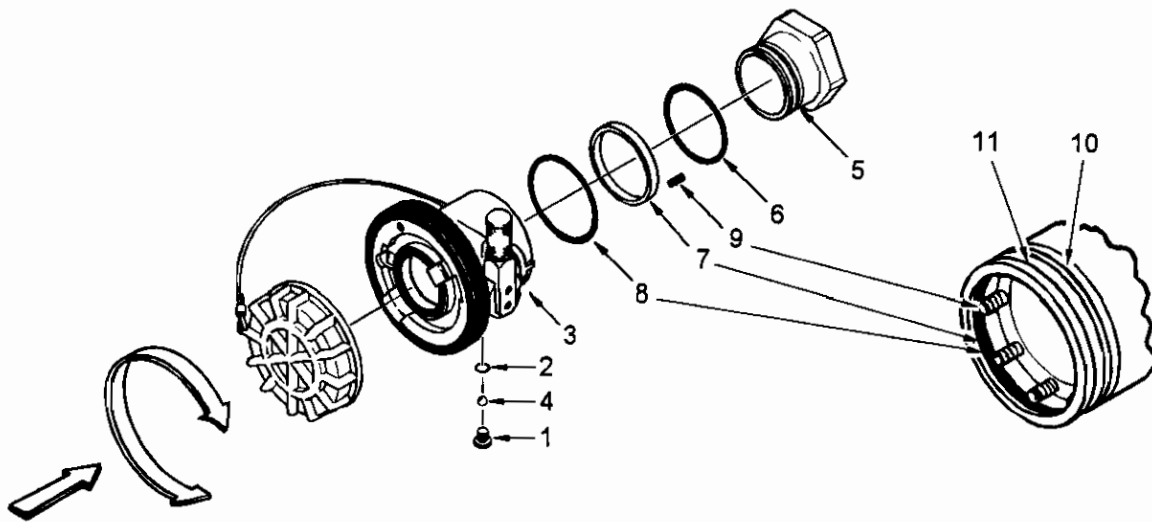

Figure 4-2. Two Inch Valved Unisex Coupling
4.8.1 REPLACE TWO-INCH VALVED UNISEX COUPLING. (Refer to figure 4-2.)